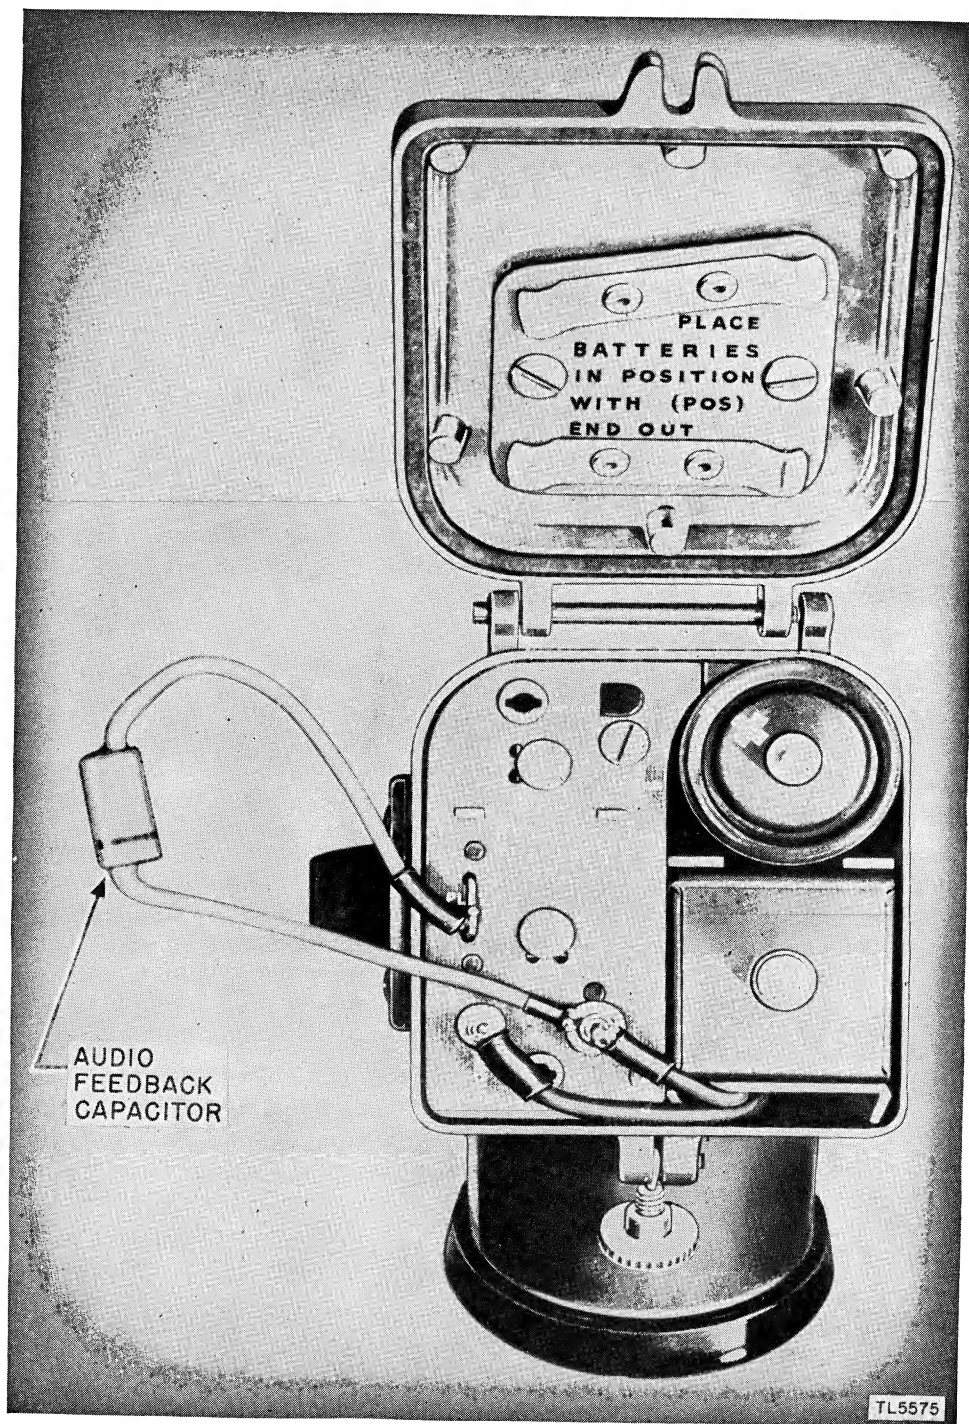

Figure 73. Connections for self-modulation.
(8) A special capacitor designed for self-modulation ((7) above) is supplied with Test Equipment IE-15-A. (See figs. 73, 74, and 75.) To simplify connections, one lead of the capacitor is tipped with a spade lug and the other lead is tipped with a plate current meter jumper. The spade lug has a small hole in it for the microphone plug. Place the spade lug of the capacitor lead between the microphone jack and the microphone plug. Remove the plate current meter jumper and replace it with the jumper attached to the other capacitor lead. Replace the batteries and place the capacitor into the space between the housing wall and the B battery spacer and then close the bottom cover. Check the set to see that it is oscillating by operating the press-to-talk switch and listening for an audio tone. The set is then ready for use as a modulated signal generator.
b. PRESETTING PROCEDURE. (1) Remove the chassis from the housing of the set to be preset and insert the correct crystals and coils.